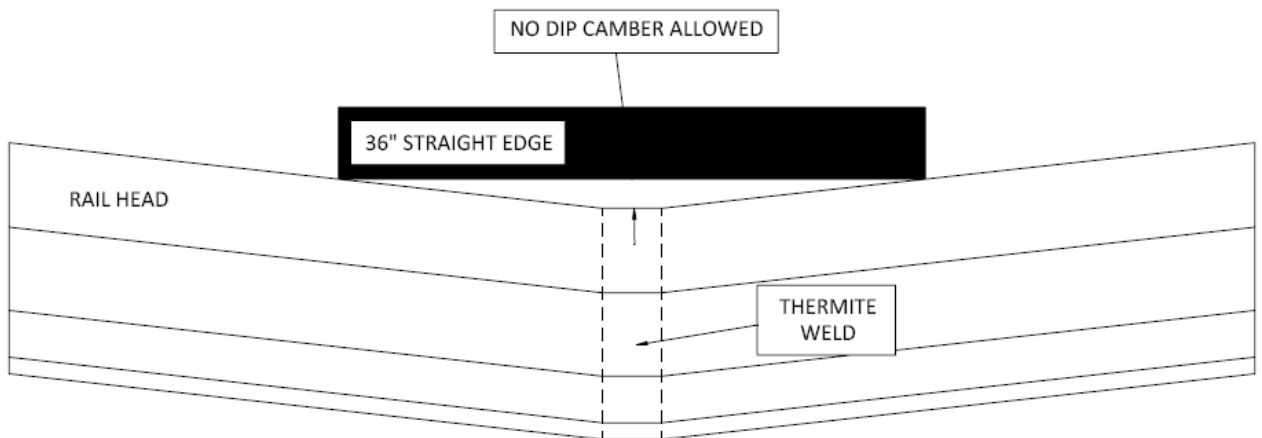

Fig. 30.1
- a. No dip camber should be allowed. (Figure 30.1)